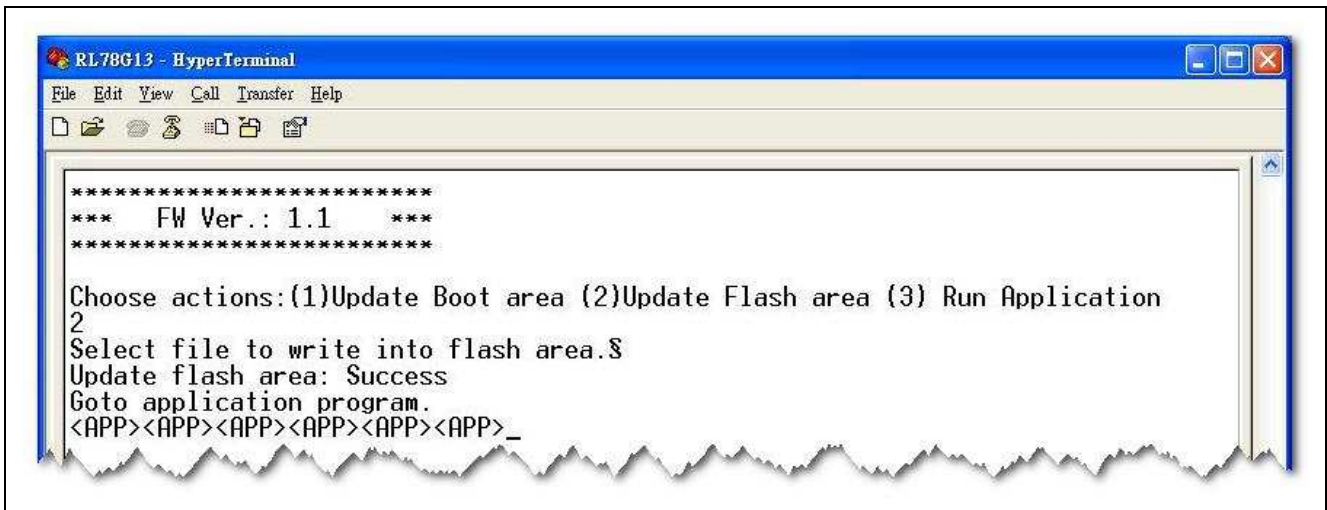

Figure 13 Result of updating application program
- Option 2 is the function for updating firmware into application program area. The operation process is same as option 1. After updating new application program, the result message of updating will be displayed on the screen of HyperTerminal (see Figure 13). If it is successful to update new firmware, the program will run the new application program. Otherwise, the program would stop until reset the system.